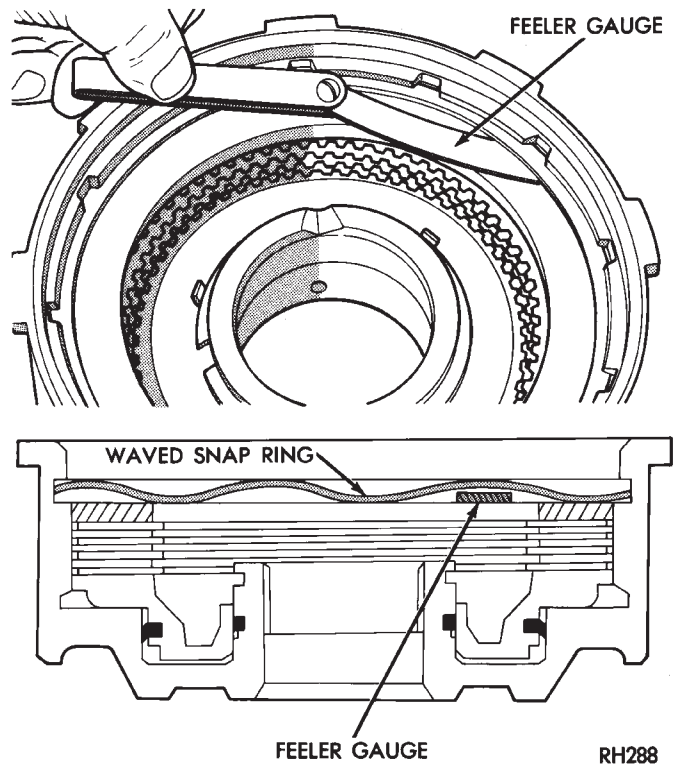

Fig. 69 Measuring Front Clutch Pack Clearance
(7) Compress piston spring and retainer with Compressor Tool C-3575-A (Fig. 69). Then install new snap ring to secure spring retainer and spring.
(10) Check clutch plate clearance (Fig. 69). Clearance should be 1.70 to 3.40 mm (0.067 to 0.134 in.). If clearance is incorrect, clutch discs, plates pressure plates and snap ring may have to be changed.